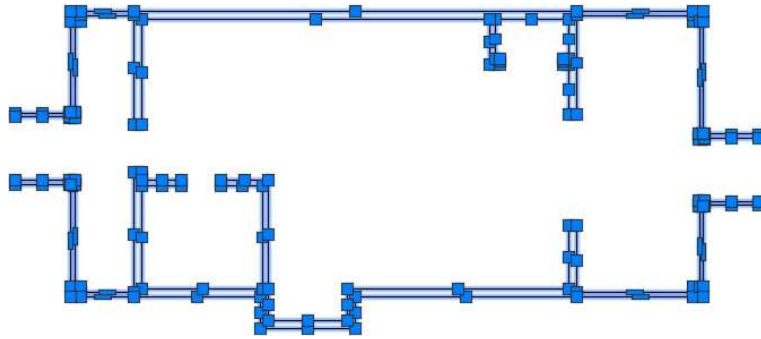

FIGURE 7.49: A-WALL and A-DECK layers isolated and selected
4. Use a selection window to select the cabin with its decks. Grips appear on all lines (see Figure 7.49).